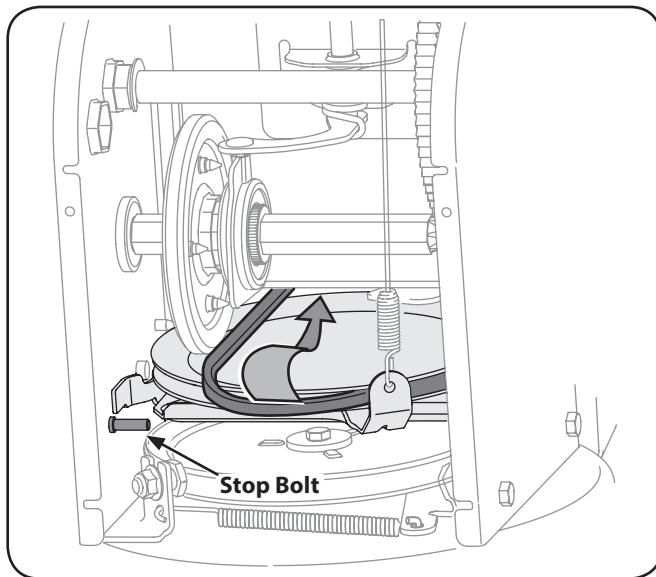

Fig. 7-8
- Back out the stop bolt to increase the clearance between the friction wheel disc and friction wheel. See Fig. 7-8.
- Slip the drive belt off the pulley and between friction wheel and friction wheel disc. See Fig. 7-8.